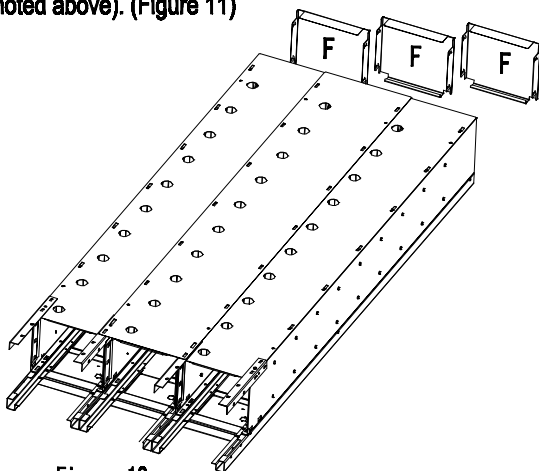
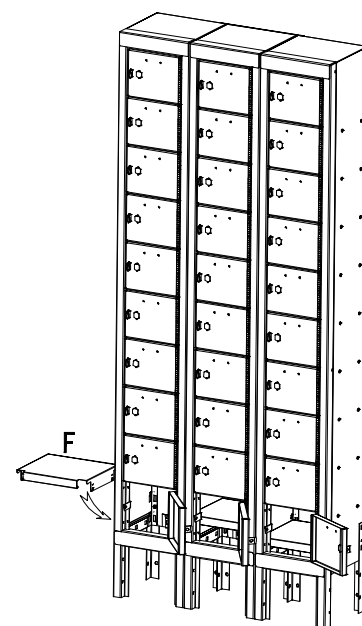

Figure 10
Figure 11
Assembly for the top and bottom (F) of the 1 Wide Cell Phone Locker and 3 Wide Cell Phone Locker (Figure 10): Note that the top, bottom and shelves are all identical parts. Begin with 3 pieces to install the tops. Place the tops so that the flange is facing the frame end, which would be considered the front. Insert the tops at an angle so that the flange fits into the shell of the unit. Align all the flanges of the tops with the flanges of both the sides and backs. Using a rubber mallet lightly tap the top until it seats into the unit. Next stand the unit up on its top and insert the bottoms the same way as the tops (noted above). (Figure 11)